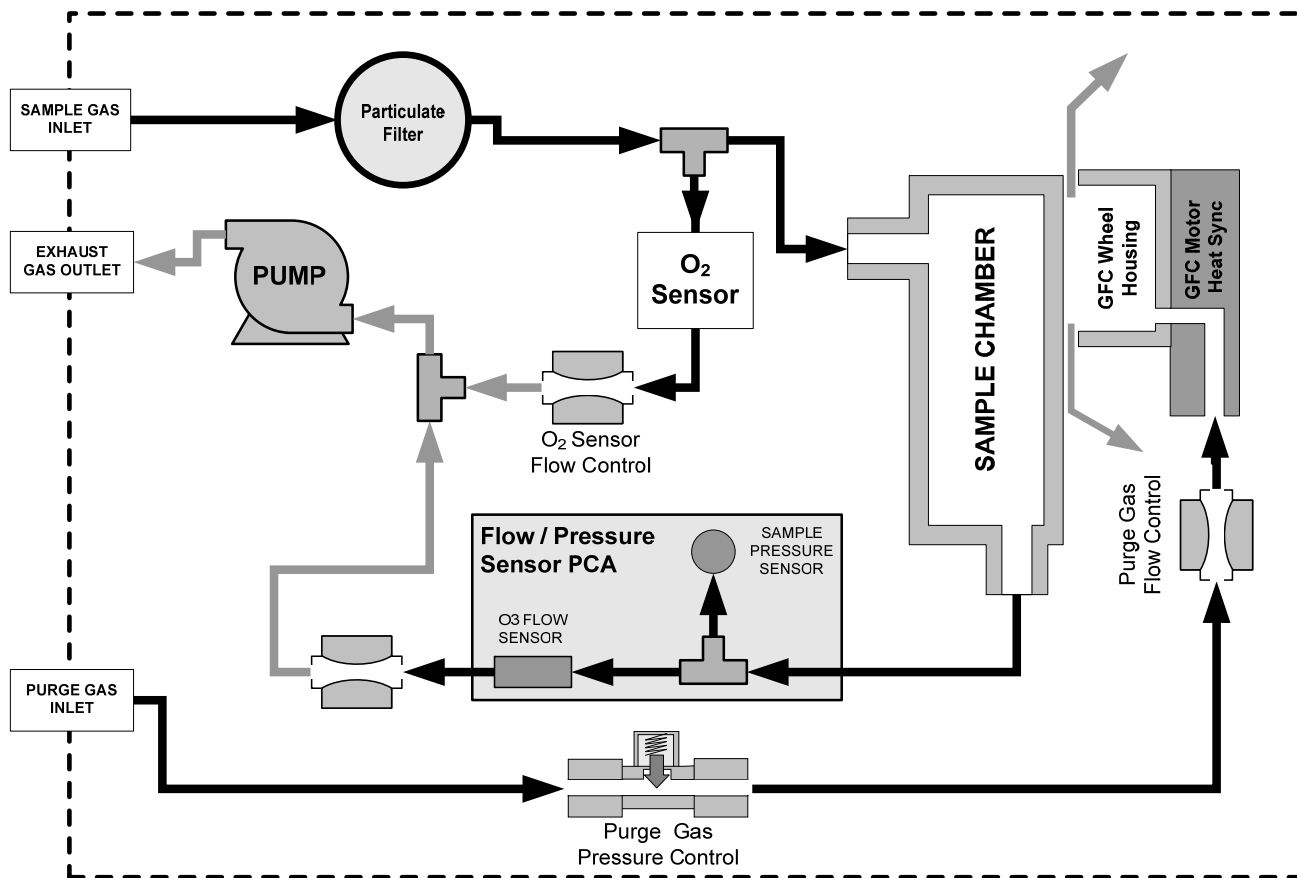

Figure 5-8: GFC 7000E – Internal Pneumatics with O₂ Sensor Option 65
- Pneumatically, the O₂ sensor is connected to the bypass manifold and draws a flow of about 120 cm³/min in addition to the normal sample flow rate and is separately controlled with its own critical flow orifice. Figure 5-8 shows the internal pneumatics of the GFC 7000E with the O₂ Sensor installed.